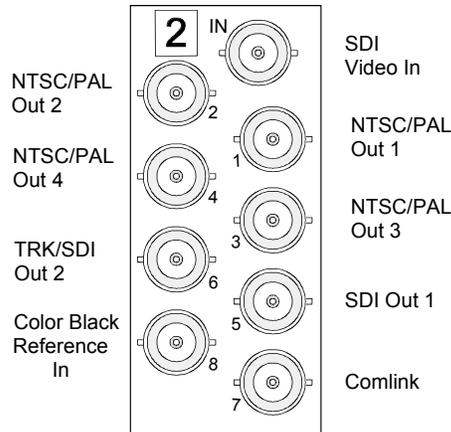

Figure 4. DAC-8016A BNC Designations for RossGear Frames
- If you wish to reference the card from the frame’s Master Reference connector, ensure that a composite analog (typically color black) reference signal is connected to the REF BNC on the frame (see Figure 4). Jumper **JP2** must be set to **FRM**, see the “**Jumper Setup**” section